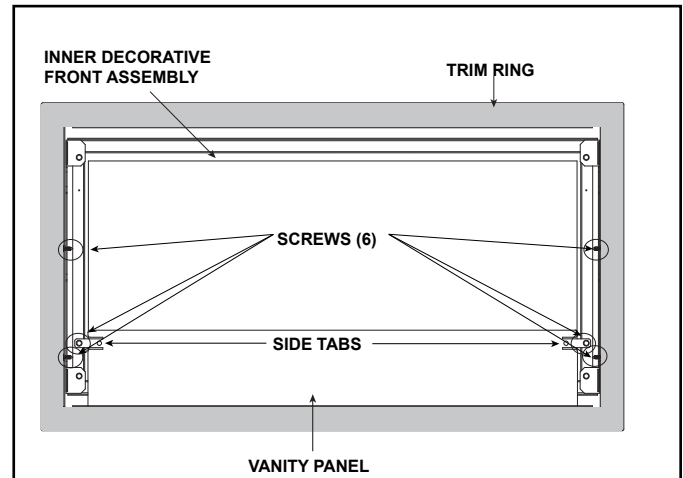

Figure 1. Decorative Front Assembly
2. Detach vanity panel and inner decorative front assembly from the trim ring by removing the six screws as shown in Figure 1.